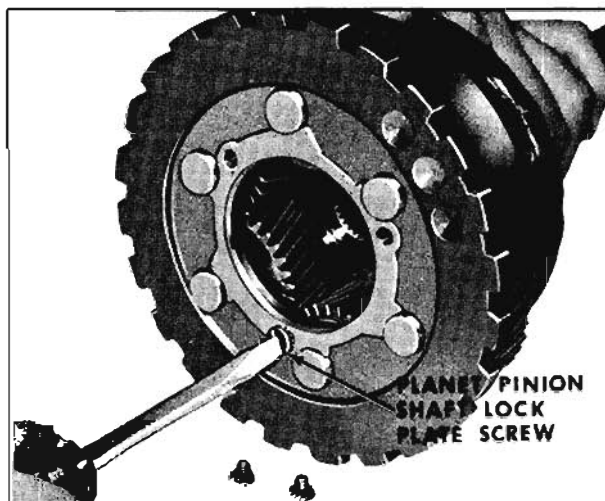

Fig. 6-384 Removing Lock Plate Screws
1. Remove three planet pinion shaft lock plate screws and lockwashers. (Fig. 6-384)